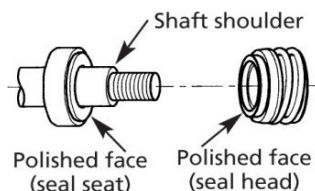

Figure 1 – Seal Replacement
Refer to Figures 1, 2, & 3.
**IMPORTANT:** Be sure that shaft shoulder does not damage polished face (see Figure 1).